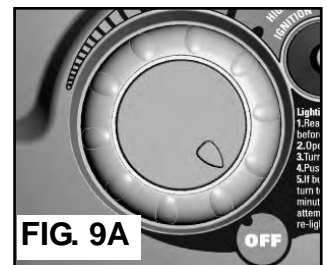

FIG. 9A
STEP 1) Turn control knobs of Main grill, Side Burner and Lantern to the "Off" position. (FIG. 9A, 9B & 9C)